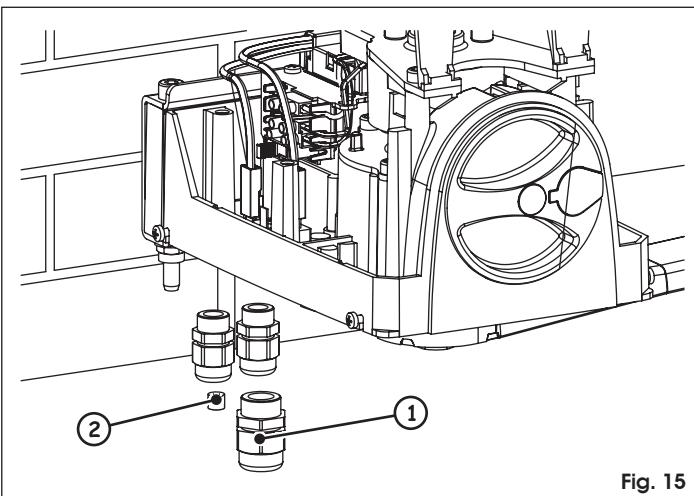

Fig. 15
1. Install all the three supplied cable grippers with the securing nuts (Fig. 15).
**⚠ Always use the largest cable gripper (Fig. 15 ref. ①)**
**⚠ If the other two cable grippers are not used, they must be closed, using the supplied plugs (Fig. 15 ref. ②). Fit the plastic plug in the cable routing hole and close the cable gripper until it is tight.**